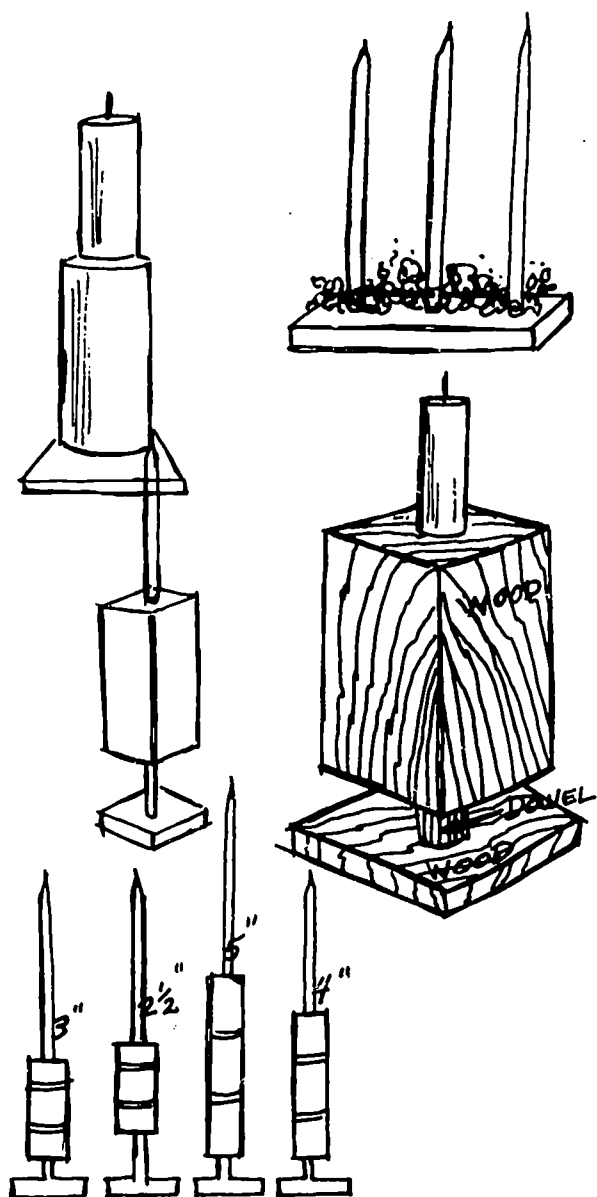

Fig. 65-1. Rough Sketches
1. Many simple sketches, called "thumbnails," start the product design. (Show on the chalkboard how to sketch three candlestick designs: a circular design, a horizontal rectangular design, and a vertical rectangular design. Make quick rough sketches in a very simple style. See Fig. 65-1. If more than one is desired, thought can be given to making up sets as in Fig. 65-1.)
3. Of the possible roughs, a single design seems to hold the most promise. (Choose the vertical rectangular candlestick design.) The designer then makes a refined sketch of this selected design. See Fig. 65-1.